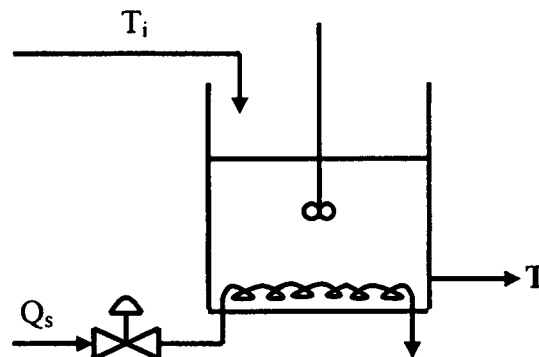

Figure 6. Stirred tank heater.
- ii) The stirred tank heater shown in Figure 6 is to be controlled using a feedforward-feedback control system. The control objective is to maintain a constant temperature in the exit stream. The input stream is coming from an upstream unit and may vary in temperature. The steam input can be manipulated.